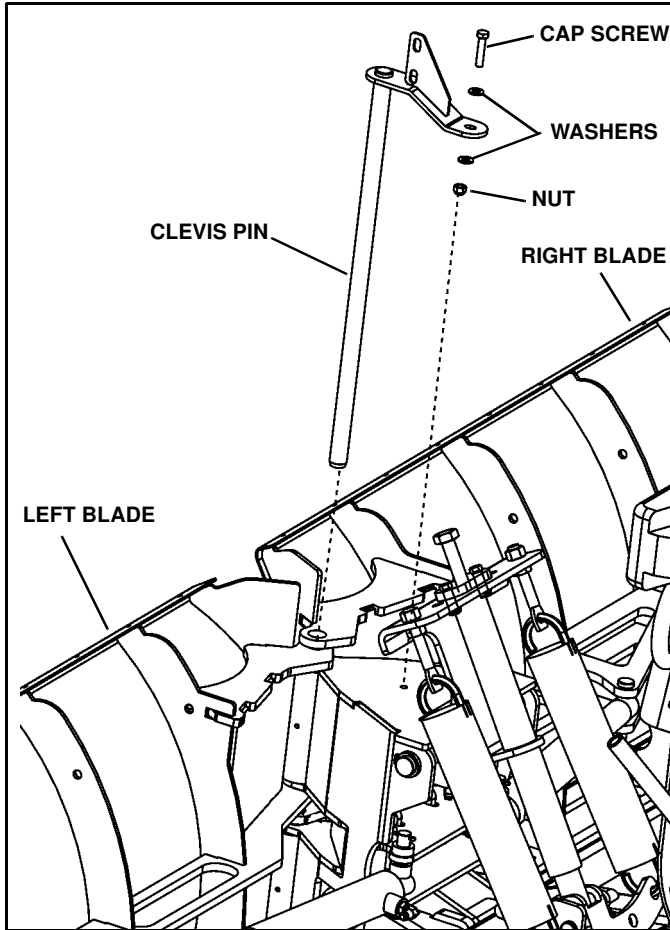

Figure 1-7
6. Coat clevis pin with grease and insert completely through the A-Frame, blade section pin holes, and support plate holes. (See Figure 1-7).